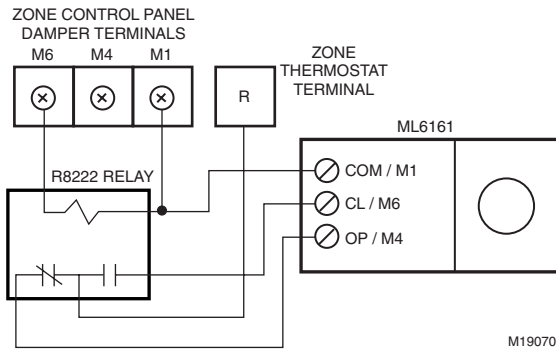

Fig. 10. ML6161 Damper Motor Actuator wiring.
- Use isolation relay when CDO-32 Damper or ML6161 Motor Actuator is used (see Fig. 10).
When the ML6161 Motor Actuator is used, wire as shown in Fig. 10. Wire the R8222 relay to prevent the damper LED from constantly lighting amber.